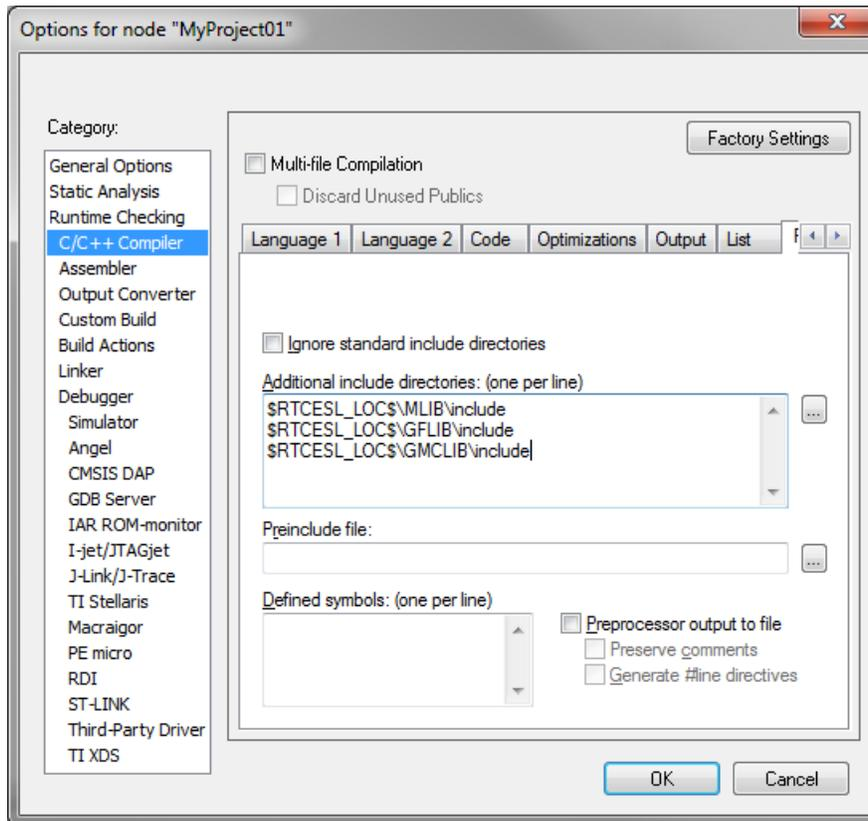

Figure 1-46. Library path addition
- Click OK in the main dialog. See Figure 1-46.